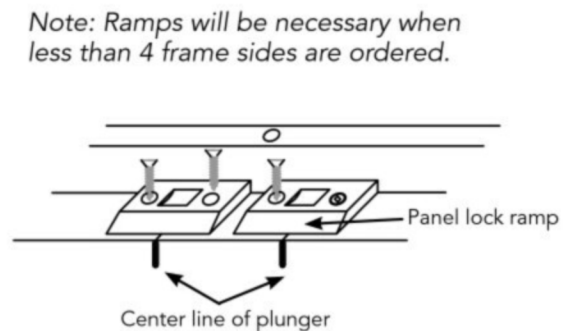

Fig. 9.2
- Center the ramp on the line marking the plunger location. (See Fig. 9.2)
- Place the Ramp back on the frame and set the screws (#6 x 5/8"). Repeat as necessary. (See Fig. 9.2)